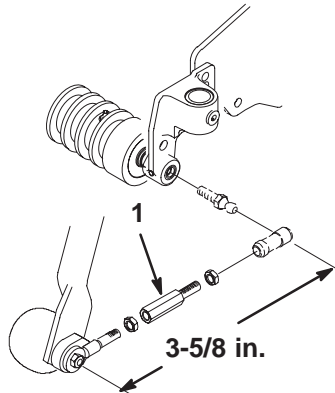

Figure 15
40. Remove the pull arm extensions (Fig. 15) before installing the groomer in the rear (#1) position. Assemble to the dimension shown in Figure 15. (Pull arm extension removed).